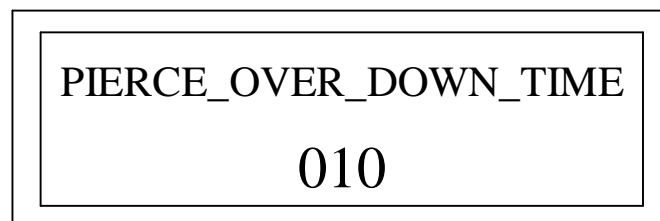

Fig. 28: PIERCE_OVER_DOWN_TIME
23)、PIERCE_OVER_DOWN_TIME: Dynamic pierce completion, The torch down time 。 Fig.28